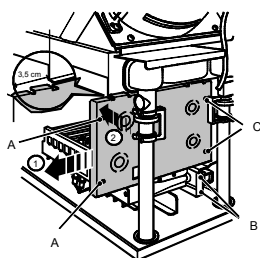
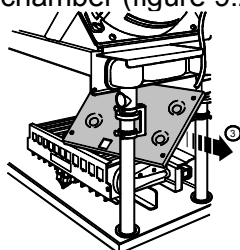

Figure 9.1
Figure 9.2
- 4) Loosen the screws A on figure 9.1 and move to the left the side panel of the combustion chamber.
- 5) Loosen the screws B and remove the air deflector (figure 9.1).
- 6) Loosen the screws C and remove the front panel of the combustion chamber moving it to the left for about 1.5 in, rotating it inside the combustion chamber (figure 9.1 follow the arrows) and then pulling it outside the combustion chamber (figure 9.2).